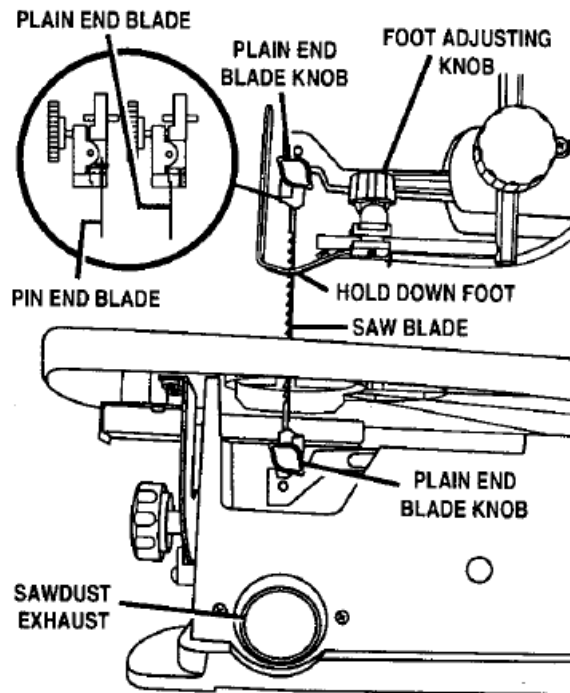

Fig. 13
See Figure 13.
- **Note:** If the blade touches the hold-down foot on either side then the hold-down foot must be adjusted. Loosen the foot adjusting knob. See Figure 13.
- Loosen the foot adjusting knob. See Figure 13.